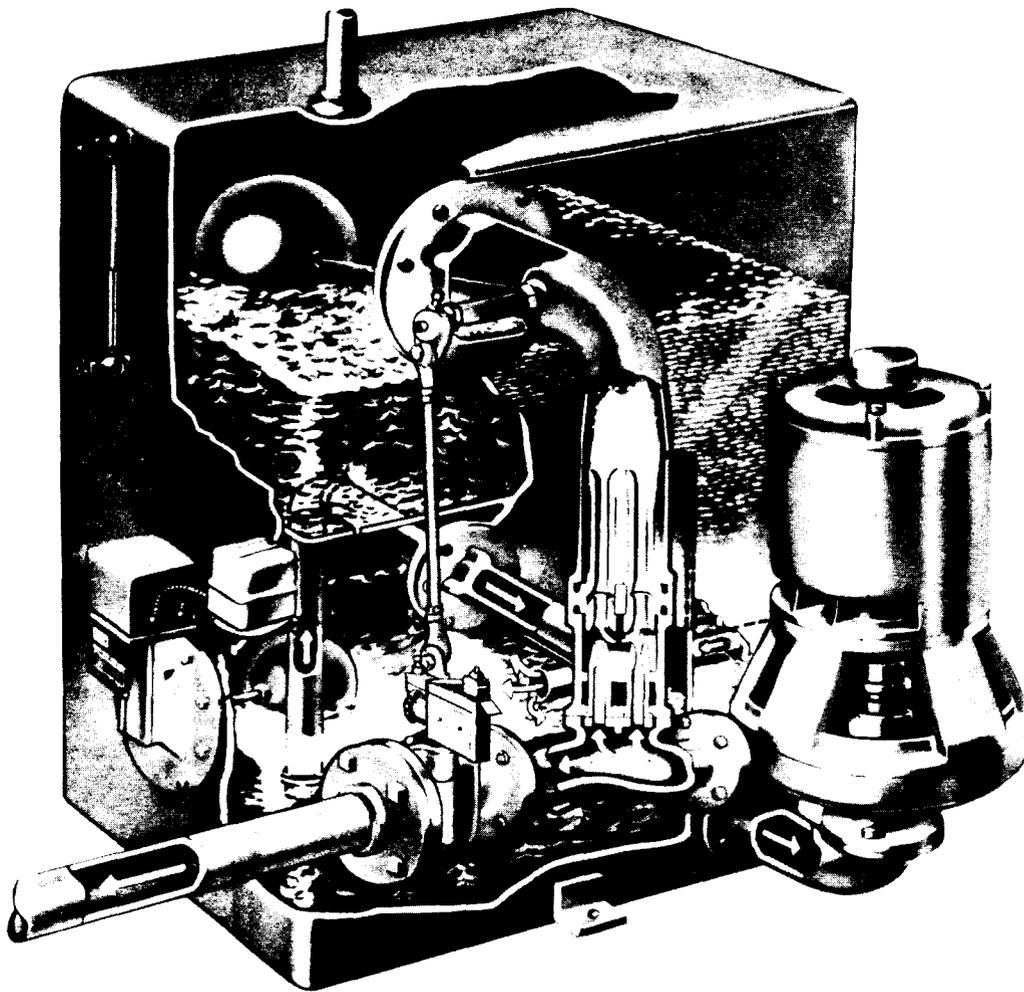

Fig. 26—Vacuum Return Pump (Dunham-Bush, Inc.)
**8.41** The vacuum return pump (Fig. 26) is used in larger buildings where the return of condensate presents a problem. A return pump consists of a reservoir with two compartments, a pump, equipment for starting and stopping the pump, and a means for producing a vacuum. Condensate flows into the lower compartment of the reservoir by gravity, assisted at times by the vacuum in the return or lower tank. The pump is started or stopped by the float position in the lower tank or by the vacuum in the lower tank. The pump usually cuts in at a 2-inch vacuum and shuts off at a 7-inch vacuum. The water is discharged to the boiler by the action of another float in the upper chamber.